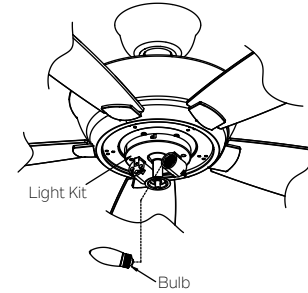

Fig. 24
**Step 1.** Install the 2, 5 Watt lamps (provided) into each socket on the light kit. (Fig. 24)